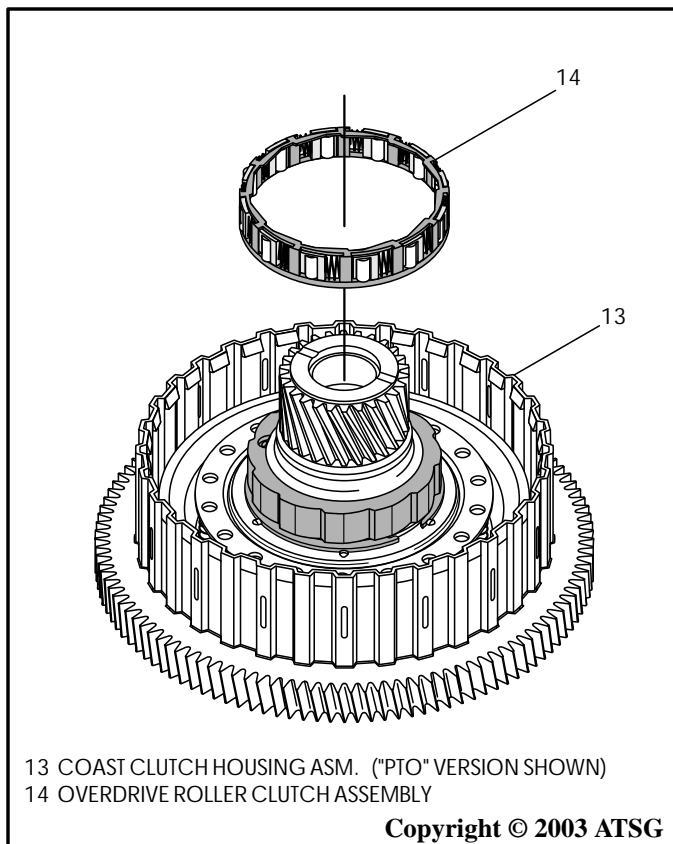

Figure 153
11. Install the overdrive roller clutch assembly, as shown in Figure 153, and rotate roller clutch counter-clockwise to lock it in position.